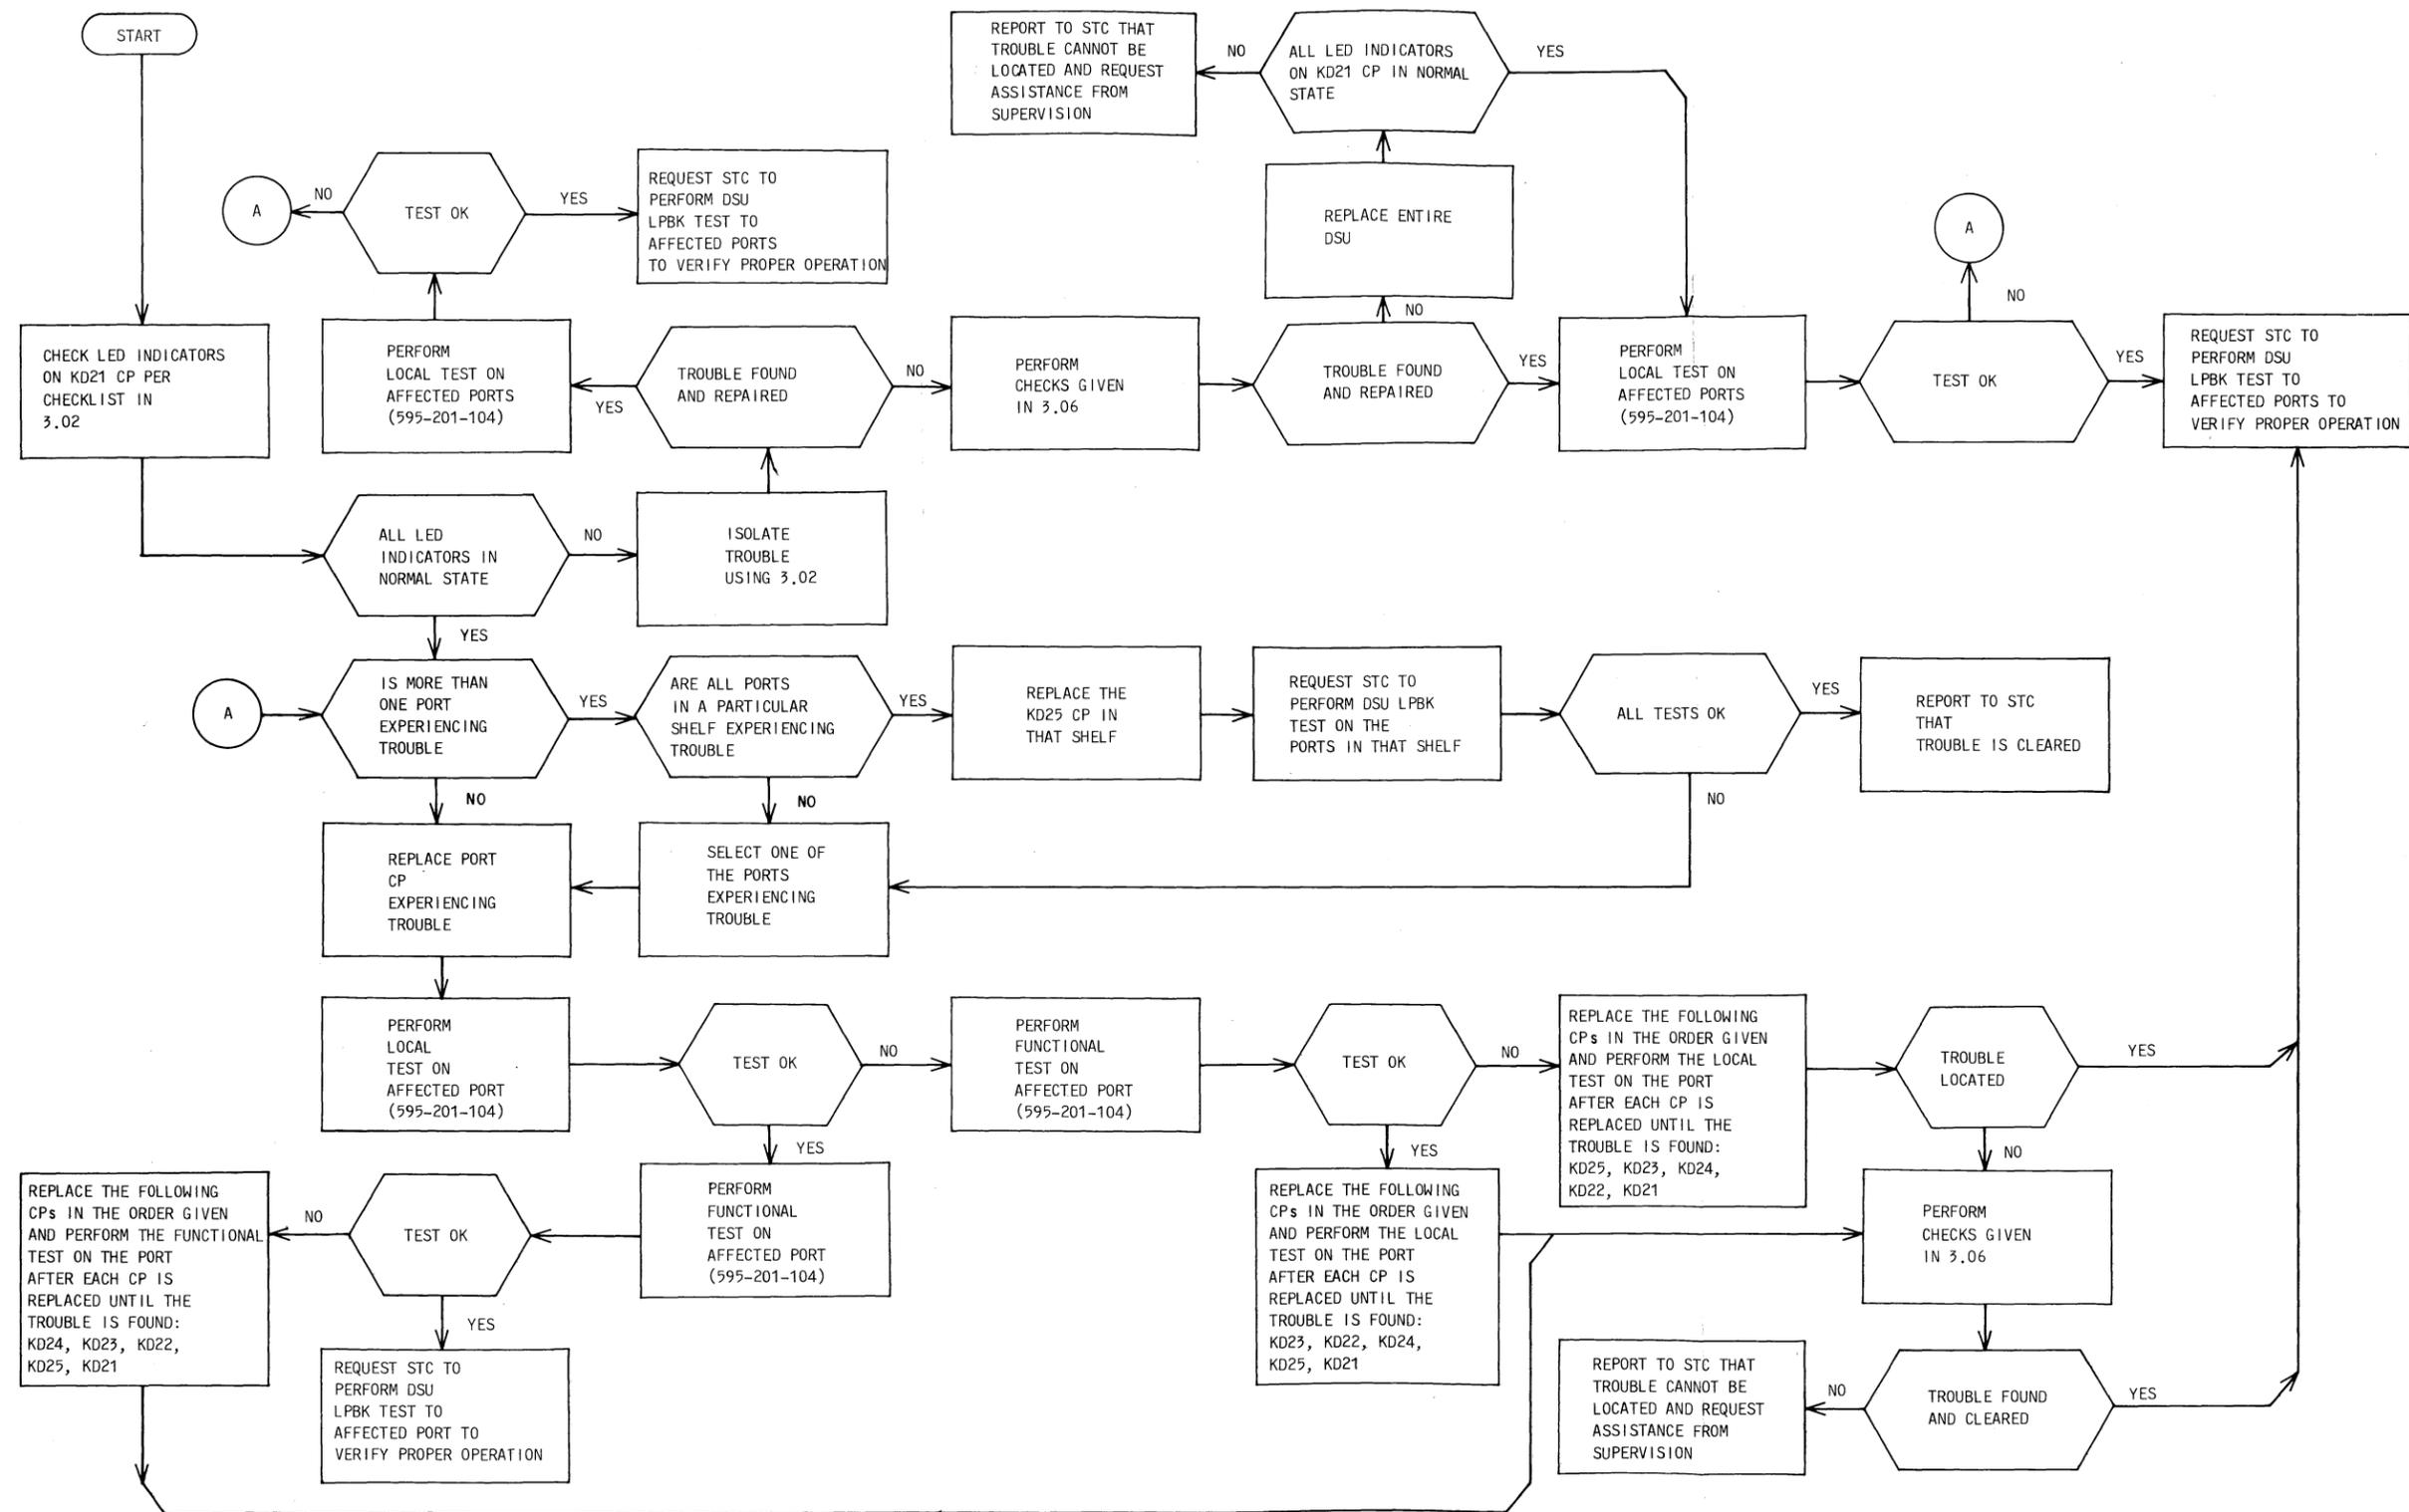

Fig. 1—Trouble Isolating Procedures for a 510A-Type DSU
3.01 When investigating a trouble report, the results of the tests performed by the STC should be used in conjunction with the trouble isolation procedures in Fig. 1 to isolate troubles in the DSU after performing the checks in 3.02.